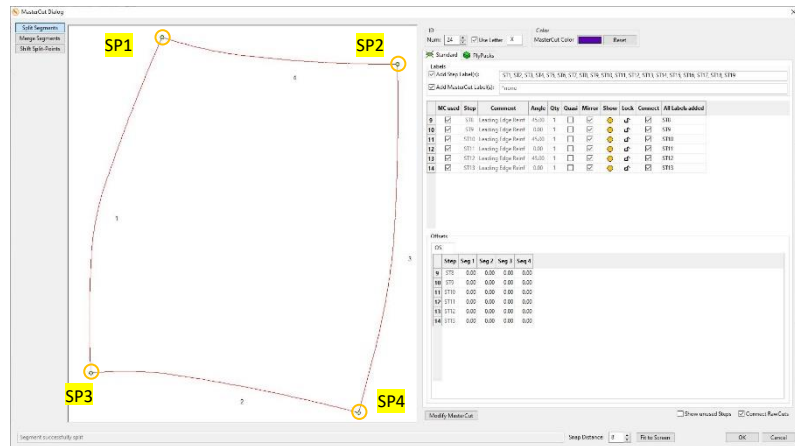

Figure 293
89. ... and for MasterCut X and split the outer geometry as shown in Figure 293...